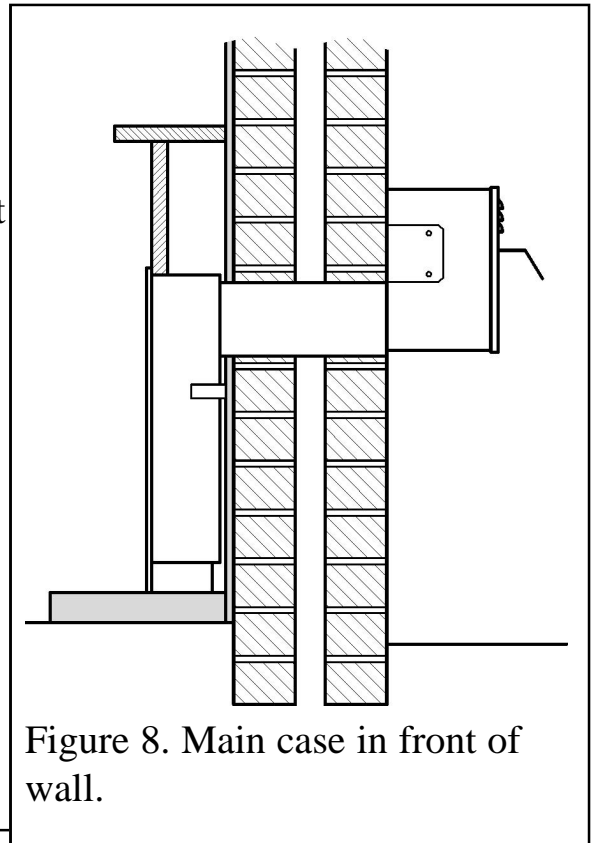

Figure 8. Main case in front of wall.
7.2 Brick, stone etc. building. Main case in front of wall (Figure 8).